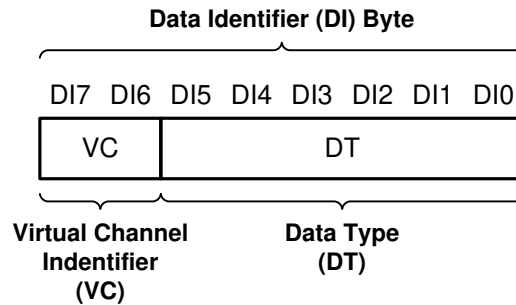

图 7-10. CSI-2 Data Identifier Structure
The DS90UB662-Q1 MIPI CSI-2 protocol interface transmits the data identifier byte containing the values for the virtual channel ID (VC) and data type (DT) for the application specific payload data, as shown in 图 7-10. The virtual channel ID is contained in the 2 MSBs of the data identifier byte and identify the data as directed to one of four virtual channels. The value of the data type is contained in the 6 LSbs of the data identifier byte. When partnered with a DS90UB633A-Q1 serializer, the Data Type is passed through from the received CSI-2 packets. When partnered with a DS90UB633A-Q1 the received RAW mode data is converted to CSI-2 Tx packets with assigned data type and virtual channel ID.